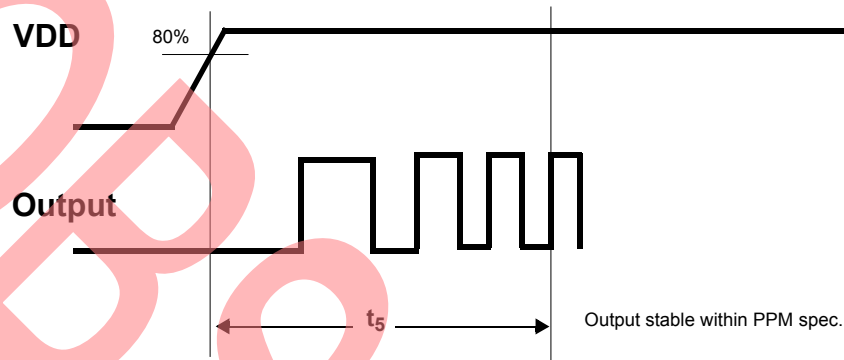

Figure 2. PLL Lock Time
11. Lock Time shown in Figure 2.